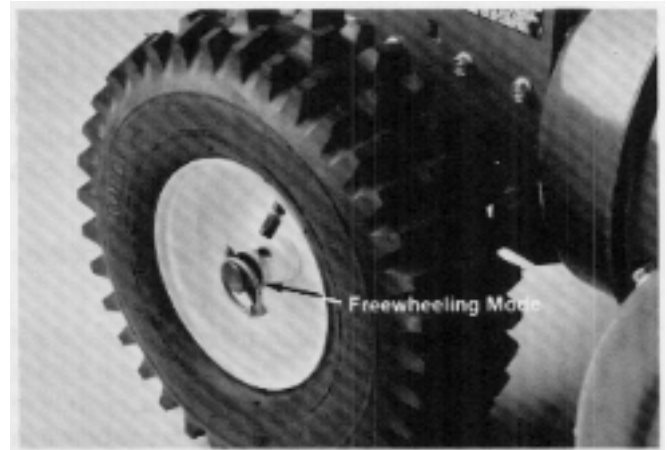

Figure 117
2. Install the wheel in the desired location; inboard for free wheeling or with the klik pin through the wheel and axle holes for driving. See Figure 117.